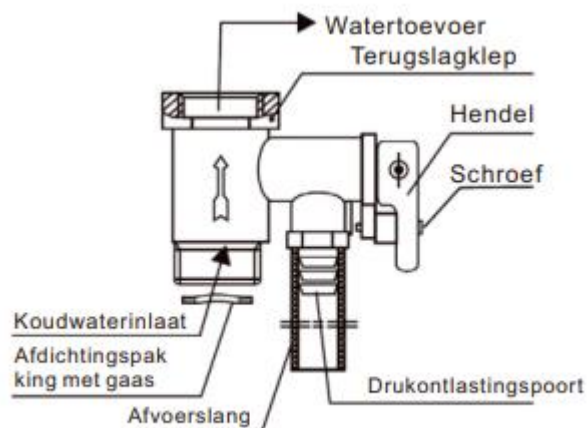

Figure 3
1. The safety valve (original factory identification 0.8MPa) must be installed on the water inlet connection (as shown in Fig. 3), Teflon tape must be wound to ensure sealing. The direction of the arrow should correspond to the flow direction of the water inlet of the electric boiler (see Fig. 3). The net sealing gasket should be installed at the cold water inlet of the safety valve, and the discharge hose at the overpressure outlet of the safety valve should be installed to maintain a continuous downward slope. The water heater should be installed in a frost-free environment and then extended to the earth leakage, kept in communication with the atmosphere and properly secured to prevent scalding due to the discharge of hot water or steam. The safety valve can prevent the tank pressure from exceeding the rated pressure by 0.1 MPa. If the pressure in the tank is too high, the safety valve will automatically open and water will be drained from the pressure relief port to release the pressure.
4. During normal use, the safety valve handle (Fig.3) should be opened regularly to remove calcium carbonate deposits. Method: Pull the drain handle up to the horizontal position (if the handle is equipped with screws, remove the screws with a screwdriver before performing this operation) and check whether the safety valve is blocked (whether water is draining). If it is blocked, please contact the maintenance department.